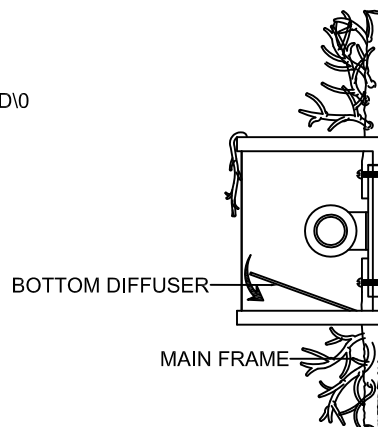

FIGURE: 1 - 2
STEP 7: Insert the candle cover to the socket. Install the bulb, do not use bulbs that exceed 40 Watts. See figure 1 - 1.